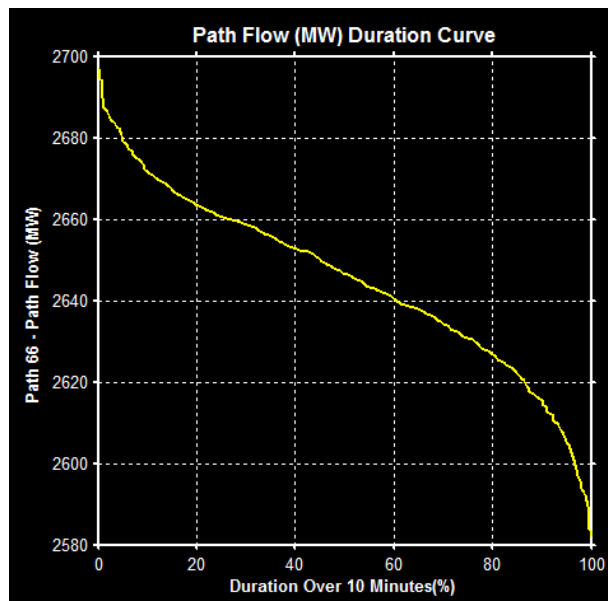

Figure 62: Path Flow (MW) Duration Curve (Panel 3)
Panel 3 - the “Path Flow (MW) Duration Curve” - displays a statistical distribution of the MW flows across the selected path (Figure 62). For each MW value along the y-axis, the corresponding x-axis along the curve shows the percentage time that the MW flows were above the value. In Figure 62, the path 66 had over 2665 MW flowing for 20% of the time. The duration over which the distribution is computed is also selectable through a pull-down menu displayed via a right click within the panel.